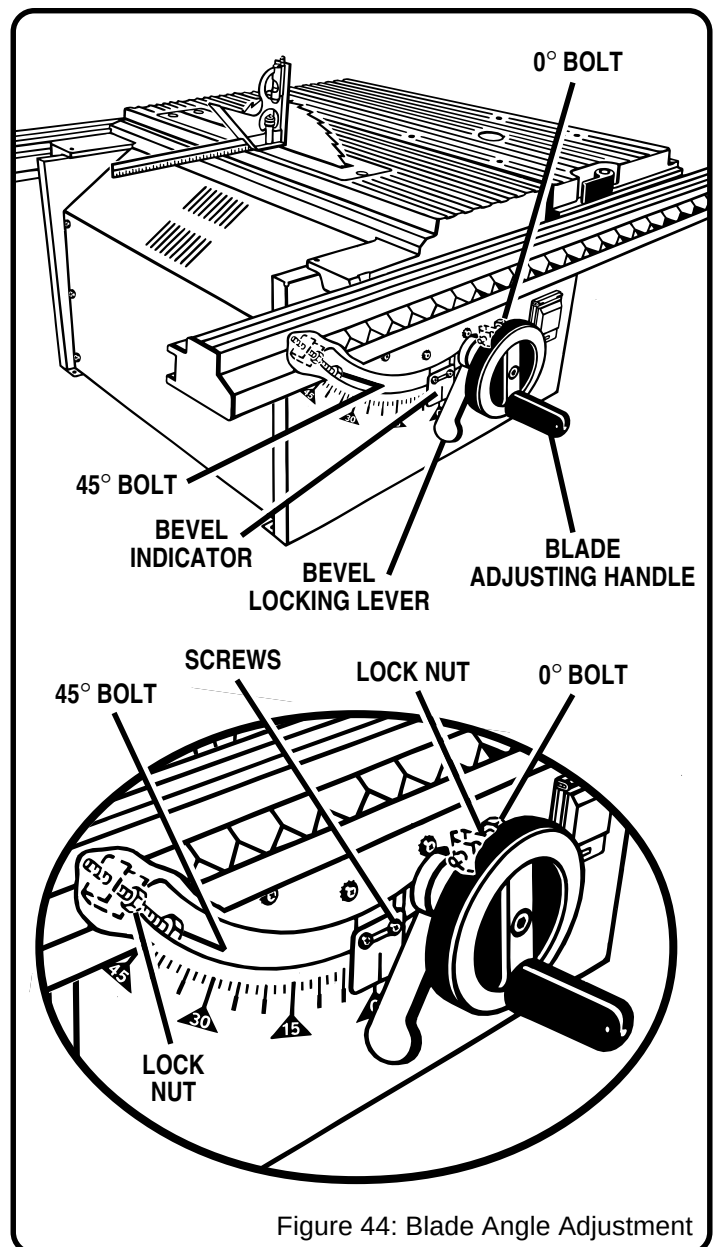

Figure 44: Blade Angle Adjustment
1. Push the bevel locking lever to the right. See Figure 44. Turn the blade adjusting handle to angle the blade. Use a combination square to check squareness between the blade and saw table.
2. If the blade is not perfectly vertical (0 degrees), loosen the lock nut on the 0 degree bolt inside the cabinet, position the blade, adjust the bolt, then re-tighten lock nut. See Figure 44, insert. If the bevel indicator is not at zero, adjust it with the two screws above the slot, beside the blade adjusting handle.
4. If the blade is not an exact 45 degrees, loosen the lock nut on the 45-degree bolt inside the cabinet, position the blade, adjust the bolt, then re-tighten lock nut. See Figure 44, insert.